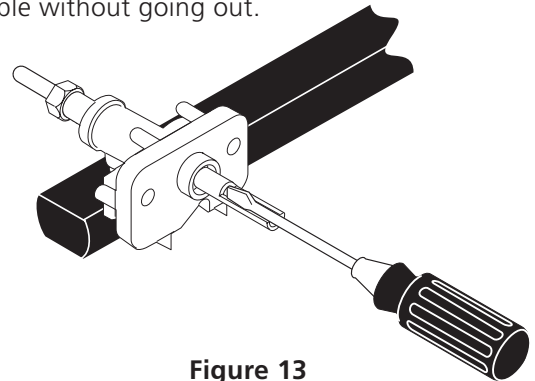

Figure 13
This range is equipped with sealed burners as shown (see Figure 13).
4. Adjust the "LOW" Setting of Surface Burner Valves (see Figure 13)